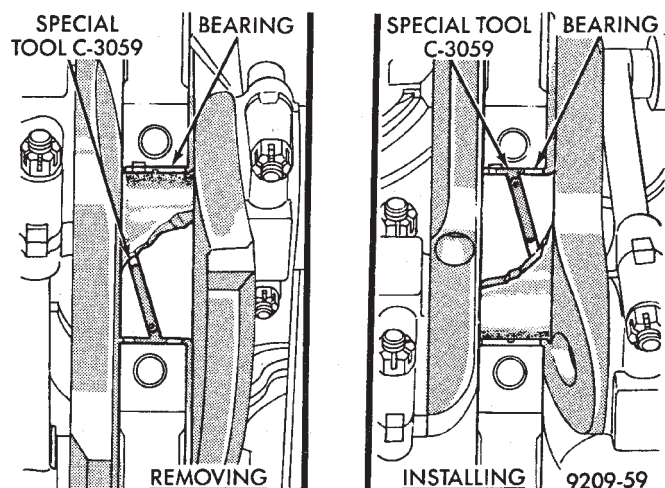

Fig. 32 Upper Main Bearing Removal and Installation with Tool C-3059
(1) Remove the oil pan.
(2) Remove the oil pump from the rear main bearing cap.
(3) Identify bearing caps before removal. Remove bearing caps one at a time.
(4) Remove upper half of bearing by inserting Crankshaft Main Bearing Remover/Installer Tool C-3059 into the oil hole of crankshaft (Fig. 32).
(5) Slowly rotate crankshaft clockwise, forcing out upper half of bearing shell.
(1) Start bearing in place, and insert Crankshaft Main Bearing Remover/Installer Tool C-3059 into oil hole of crankshaft (Fig. 32).
(2) Slowly rotate crankshaft counterclockwise sliding the bearing into position. Remove Tool C-3059.
(3) Install the bearing caps. Clean and oil the bolts. Tighten the capbolts to 115 N·m (85 ft. lbs.) torque.
(4) Install the oil pump.
(5) Install the oil pan.